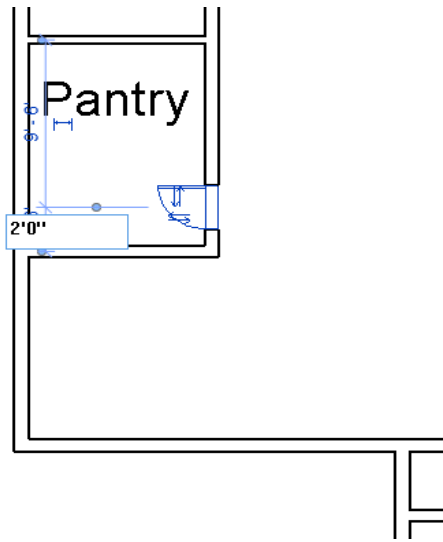

Figure 3-79 Moving the door to the exact location
7. Since the location of the door is given with reference to the side interior wall, click on the lower temporary dimension, and then enter **2'0"** for Imperial or **600 mm** for Metric, as shown in Figure 3-79. Next, press ENTER; the door moves to the specified location.